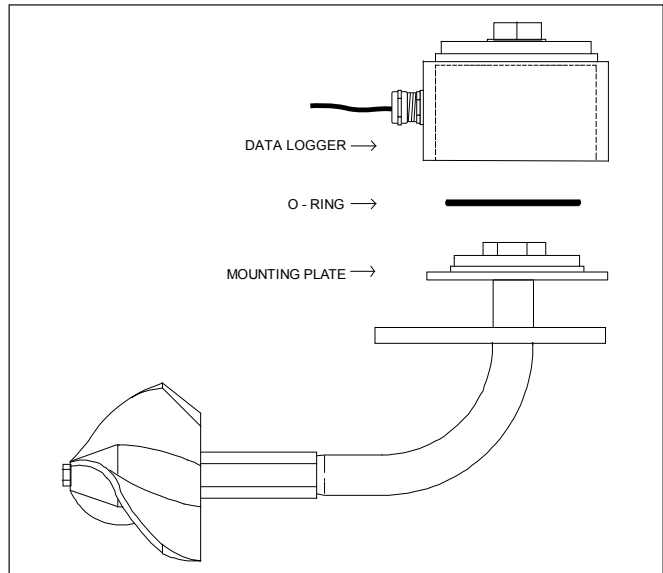

Figure 4. Installation Of The Data Logger
1. Place an O-ring over the lip on the mounting plate as shown in Figure 4. Use a small amount of silicone grease to lubricate the O-ring.